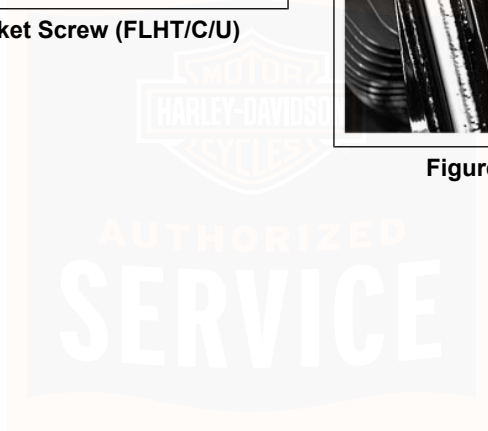

Figure 80. Seat Mounting Slot: Touring Models
1. See Figure 80. Place seat on frame backbone.